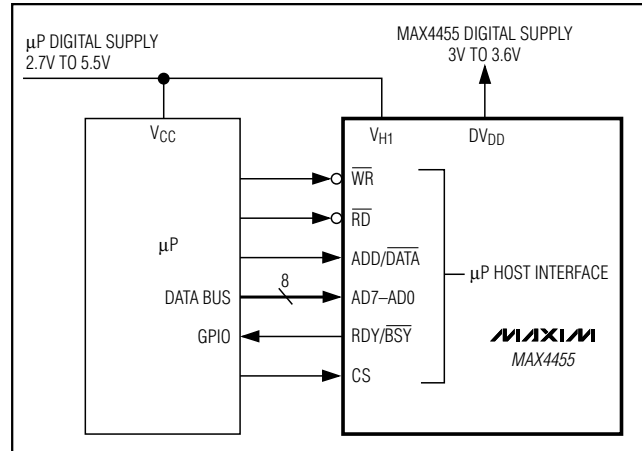

Figure 5. μ P Host Interface
The MAX4455 μ P interface includes a byte-wide address/data bus (AD7–AD0) for parallel programming of the MAX4455, write strobe input (\overline{WR}), read strobe input (\overline{RD}), active-high chip-select input (CS), address or data-select input (ADDR/ \overline{DATA}), and a ready/busy hand-shaking output (RDY/ \overline{BSY}) (Figures 5 and 6). The MAX4455 allows for interfacing to a μ P powered from a different supply than the MAX4455 by connecting V_{H1} to the μ P supply. For example, the MAX4455 can be operated with a single 3.3V supply, while the μ P interface can be operated with 3.3V or 5V logic levels by connecting V_{H1} to the μ P power supply.